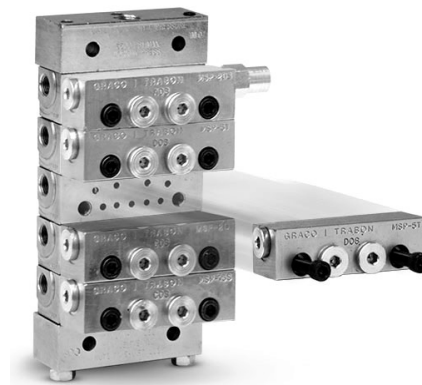

FIG. 5
1. The MSP Divider Valves require assembly (FIG. 5).
- b. Assemble metering valves to base plates as shown in FIG. 5.